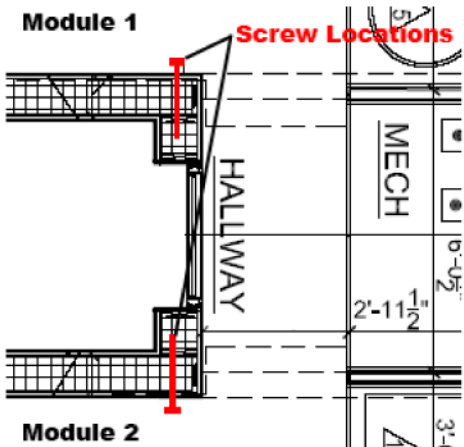

Figure 5: Module 2 Attachment
Do to its light weight, lower module 2 will be lifted into place by the use of straps provided by crane supplier. Wrap straps around module at the open ends of the module. This will ensure that the south wall window will not be damaged. Carefully lift module into place. Note: this module does not have attachment plates underneath, align north wall of module 2 with the north wall of module 1. Attach module 2 to module 1 (and module 3 after placement) with 2-1/2” wood screws at north wall intersections (exterior only) and with 12” long red structural screws where south wall abuts adjacent wall of modules 1 & 3 (see Figure 5). Detach crane and reattach to module 3 at steel lifting frame.
- Corner of wall leading from kitchen to back hall and corner of wall form master bedroom to back hall (see Figure 5);